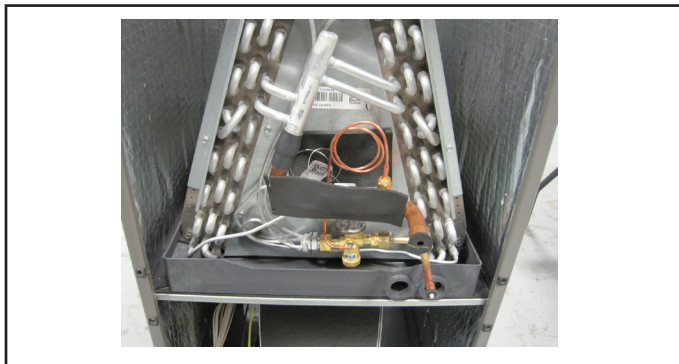

FIGURE 16.
- 4 - Leave the TXV sensing bulb in the factory-installed position inside the cabinet. If necessary, the bulb can be insulated using extra foam tape (FIGURE 16).